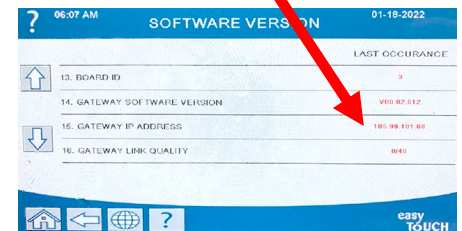

Figure 44
42. The GATEWAY SOFTWARE VERSION and other information is shown. Ensure there are numbers other than zero's shown (see Figure 44.). If only zeros are shown, power cycle the entire fryer battery and wait 5 minutes before checking the software version and IP address.